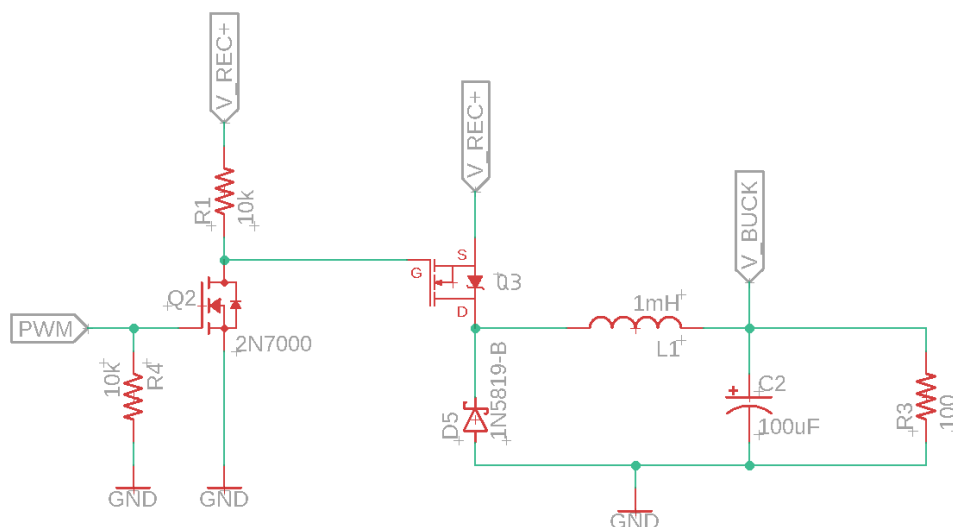

Figure 13: The simulation of the buck converter is available on Multisim. Save yourself some time and use the link provided.
In order to help you move more quickly through the lab, you can use my Multisim simulation available at this link and shown in Figure 13.
- 6) What is the role of the pair of 10k resistors, R1 and R4, in Figure 13?